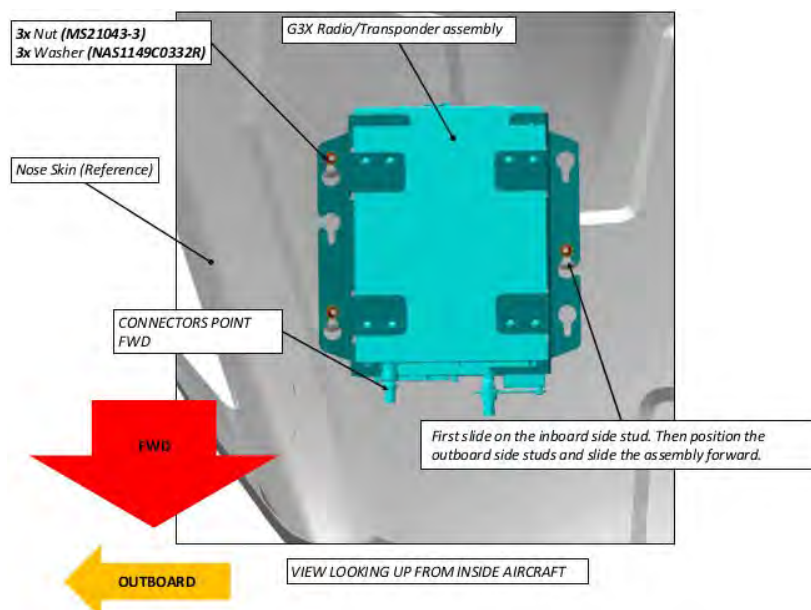

FIGURE 14-70
- a. Pre-install lock nuts (MS21043-3) and washers (NAS1149C0332R) as shown leaving a gap for the installation of G3X Radio/Transponder subassembly. (See Figure 14-70.)
- b. Install G3X Radio/Transponder subassembly by first sliding on the inboard side stud. Then position the outboard side studs and slide the assembly forward. (See Figure 14-70.)